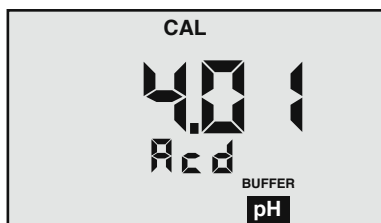

Figure 4
2. At this point the “**CAL**”, “**BUFFER**” and “**Acd**” or “**bAS**” annunciators will be displayed (see Figures 4 and 5).